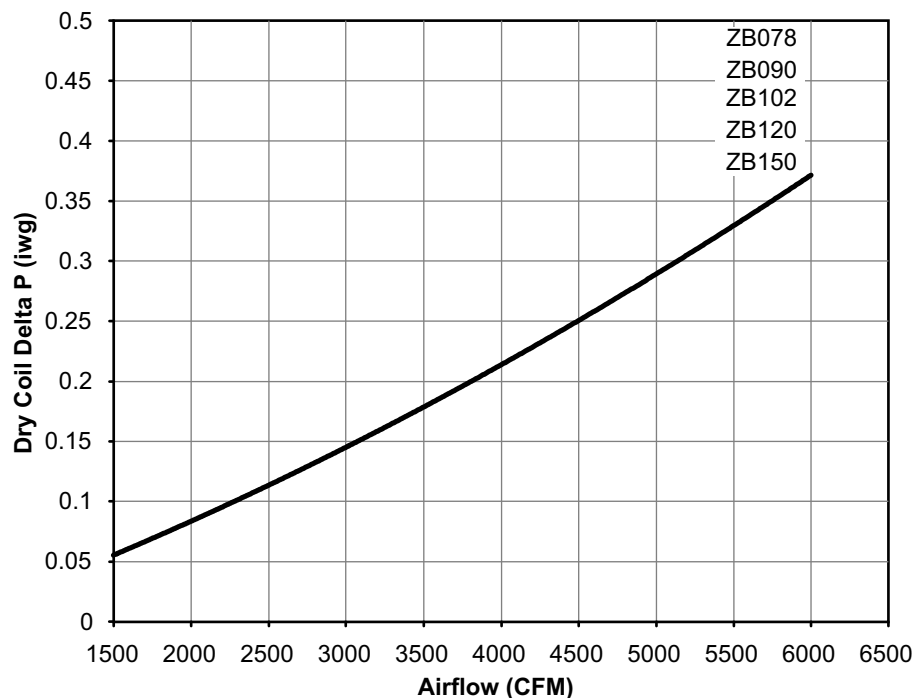

Figure 28: Dry coil delta P
4. Use the pressure drop indicated by the manometer and the graph in Figure 28 to determine the unit CFM. In order to obtain an accurate measurement, verify that the air filters are clean.